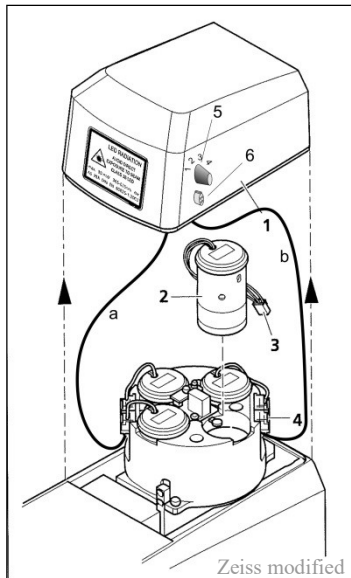

Fig. 53: Changing the LED module in the upper stand part FL-LED
The integration of LED modules in the Axio Scope.A1 is shown in Fig. 53.
In the case that the Axio Scope.A1 shall also be used for further epifluorescence applications beside PAM measurements, the electrical connections shown in Fig. 53 (cables **a** and **b** connecting the LED modules with the IMAG-CG unit via rotary switch indicated with number 5) have to be modified depending on the number of LED modules used for each application. Please ask for technical assistance at the Heinz Walz GmbH if a combined application is intended.
Please Note: If cables **a** and **b** in Fig. 53 are connected the switch for the epifluorescence lamps on the right side of the microscope is not active (Fig. 51 grey circled a).
For the use together with IMAGING-PAM MICROSCOPY version the LED modules have to be connected with the central control unit IMAG-CG. The provided connection cable for the LED modules has to be connected with the 3-pin connector (Fig. 53 number 6) on the cover cap of the Zeiss Axio Scope.A1 and with the 6-pin “MINI-Head” connector on the IMAG-CG control unit.
- MICROSCOPY-version: IMAG-L625M and IMAG-L470M is connected via MINI-Head cable from the 3-pin connector (Fig. 53 number 6) on the cover cap of the Zeiss Axio